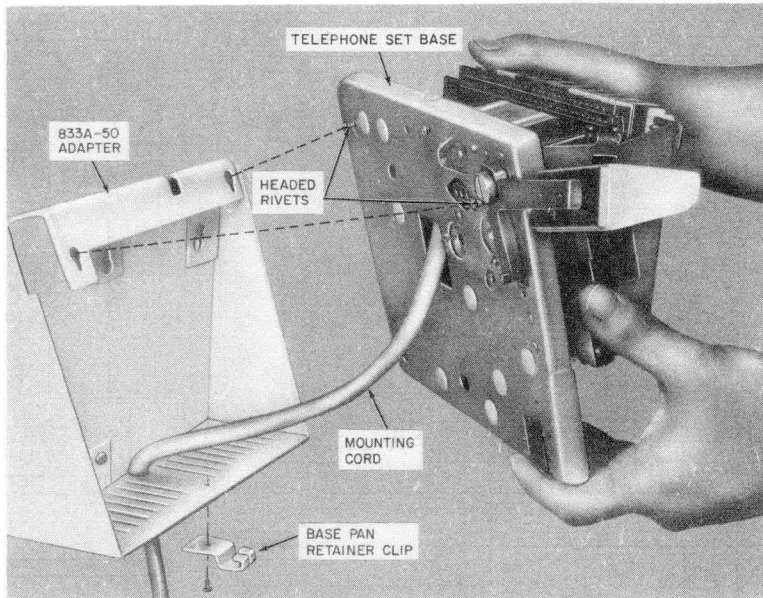

Fig. 5—Mounting Telephone Set Base onto 833A-50 Adapter
- (1) Mount the adapter to the wall or vertical surface as shown in Fig. 4, using appropriate fasteners (Section 080-720-105). If the mounting cord is to be dressed down the wall, it is necessary to pass the cord through the notch in the adapter before final attachment of the adapter to the wall (Fig. 5). If the cabling enters through the wall, the mounting cord may be contained within the adapter.
- (2) Remove faceplate and housing from telephone set.
- (3) Hang the telephone set on the adapter from the headed rivets that protrude from the base pan (Fig. 5).